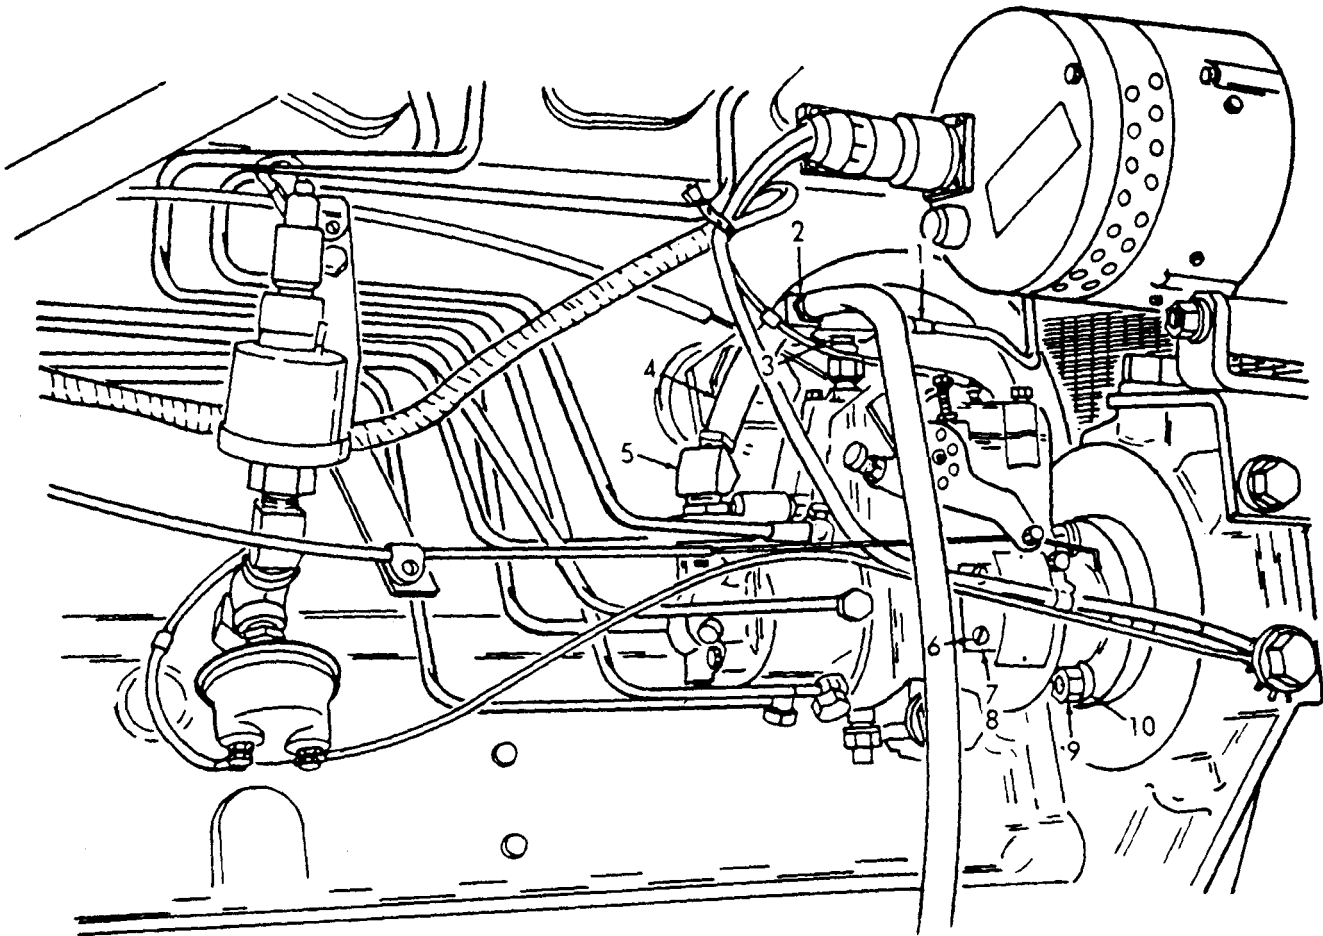

Figure 8-5. Fuel Injection Pump, Removal and Installation.
a. Removal (Refer to figure 8-5).